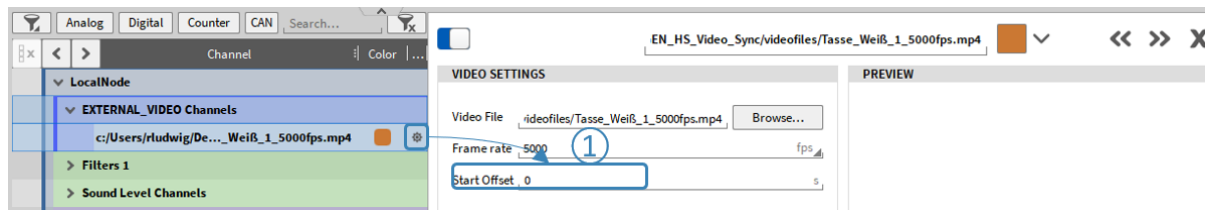

Fig. 7.168: Compensating a deterministic delay between video and sensor data
If the latency between video and sensor data is known it can be compensated by entering the delay in *Start Offset* in the video's channel setup (see ① in Fig. 7.168).